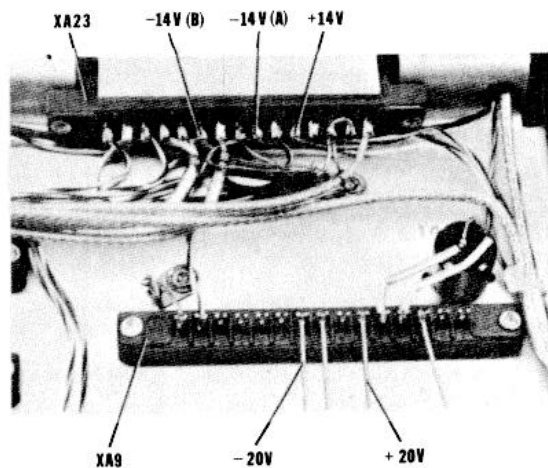

Figure 5-3. Power Supply Test Points
- b. Check other power supply voltages listed below (see Figure 5-3 for test points).
-14 +1 V (A)	XA23(9)
-14 ± 1 V (B)	XA23(6)